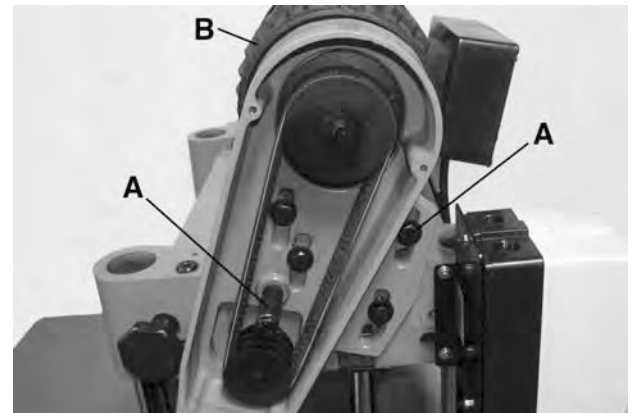

FIGURE 16
3. Loosen the two hex. bolts (A) Fig.16 and pivot motor assembly (B) towards the front of the planer. **NOTE:** Belt tension is not disturbed when pivoting the motor forward. **WARNING: THE CUTTERHEAD AND KNIVES ARE NOW EXPOSED AND CARE SHOULD BE TAKEN AS THE KNIVES ARE VERY SHARP.**